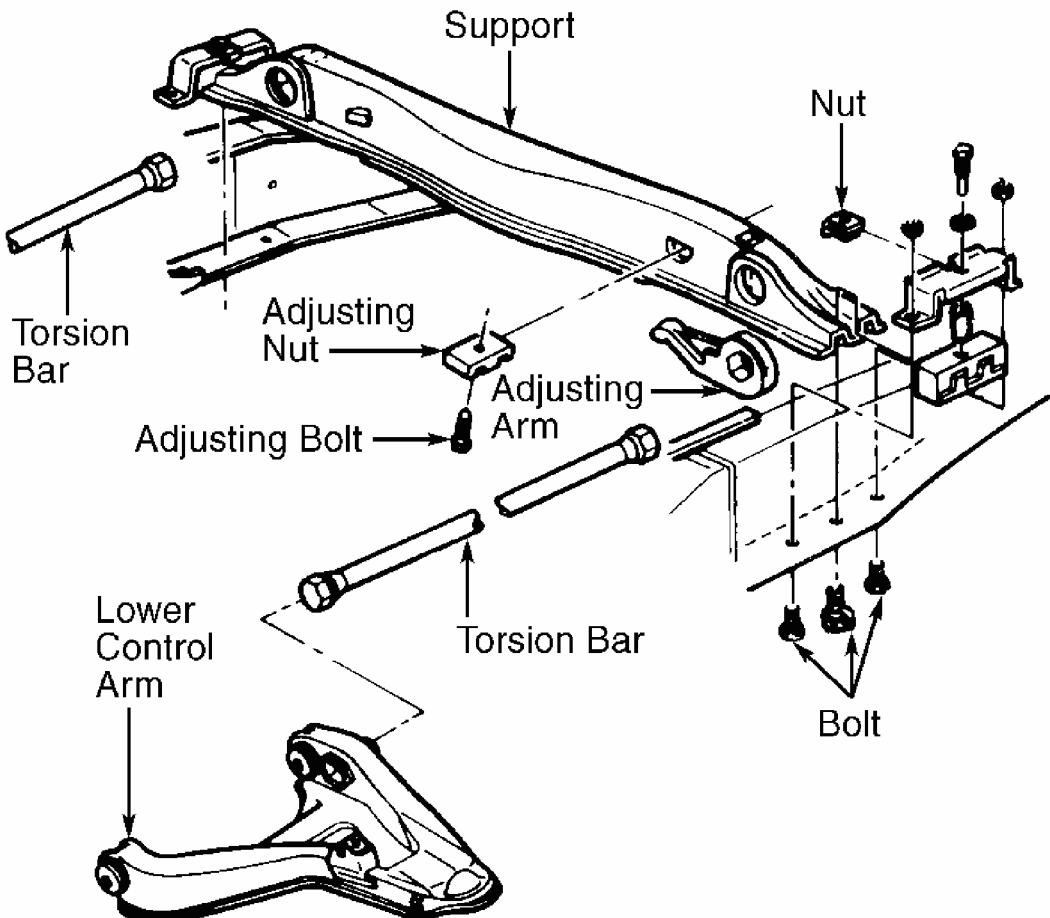

Fig. 6: Exploded View Of Torsion Bar & Support Assembly
2. Remove torsion bar adjusting nut. Slowly relieve torsion bar tension. Remove unloading tool. Slide torsion bar forward. Remove torsion bar adjusting arm. Remove support mounting bolts, nuts and washers. Remove support retainer, spacer and rubber insulator. See **Fig. 6**.